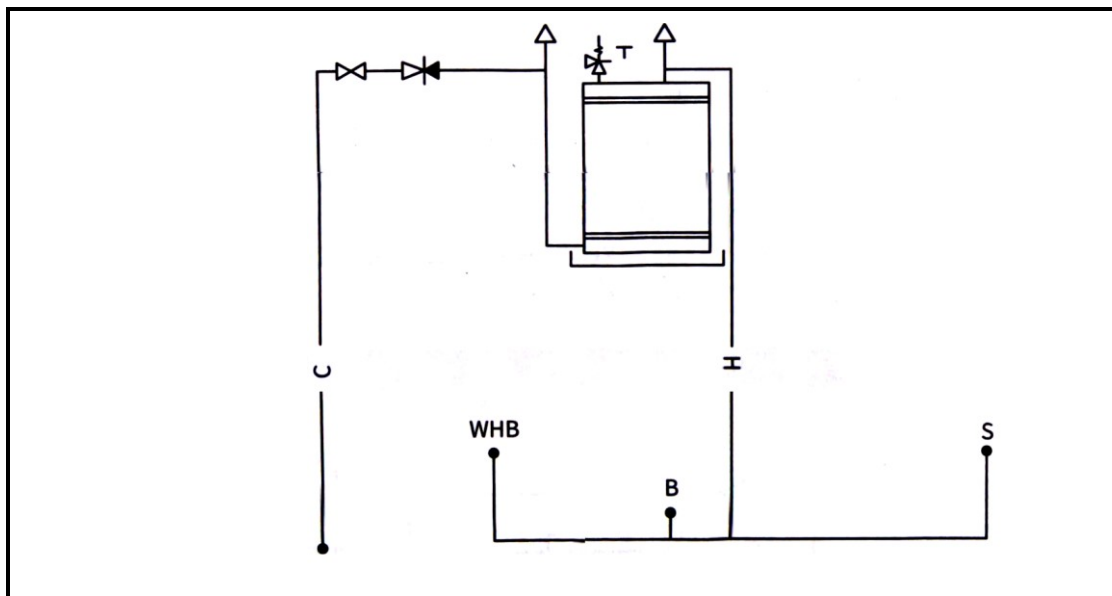

FIGURE 5.8
- 5.8 FIGURE 5.8 shows a line diagram of the cold- and hot-water supply for a building. The cold-water pipe to the geyser has a diameter of 22 mm. The hot-water pipe from the geyser has a diameter of 22 mm and the branch pipes for the hot-water have a diameter 15 mm. Use the information in the table below and determine the quantity material **5.8.1** to **5.8.10** which is needed for the hot-water installation.